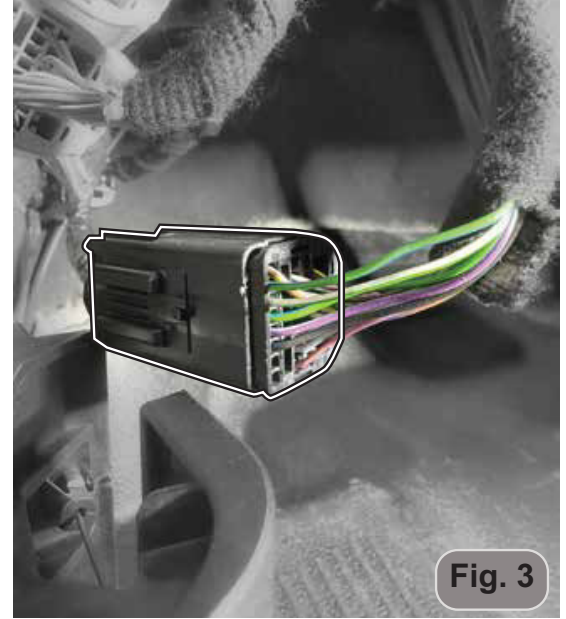

Fig. 3
2. Isolate the plug (Fig. 3) and identify the vehicle's CAN High (H) and CAN Low (L) wires. CAN H is located on Pin 19, and is Green/Blue. CAN L is located on Pin 20, and is White/Green.